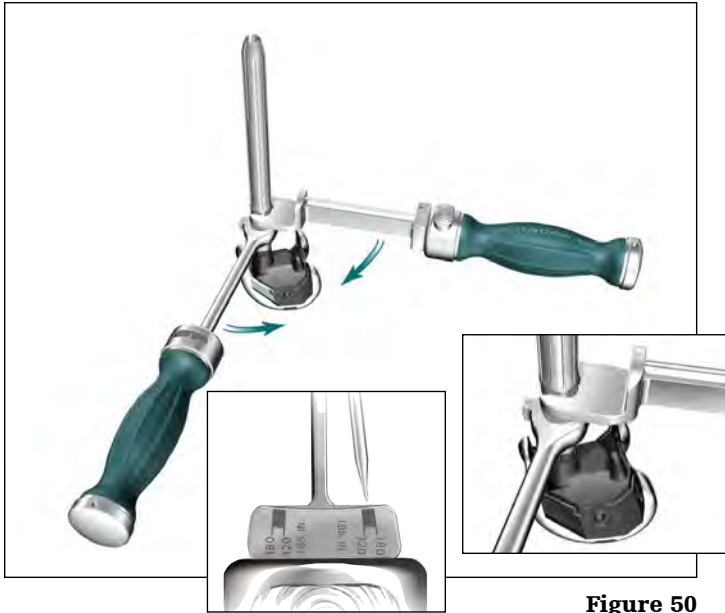

Figure 50
- Tighten by pulling the wrenches **together**. Torque stem to 120 in-lbs as indicated on the Universal Torque Wrench (**Figure 50**).